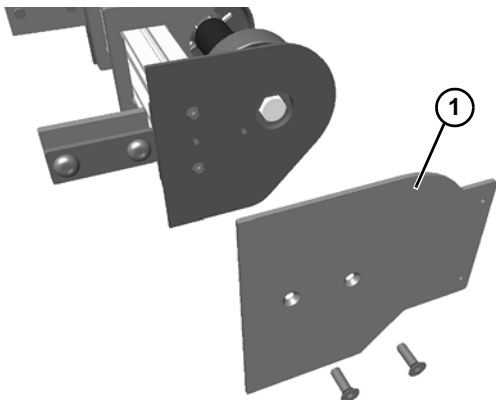

Figure 93
8. Remove cover plate (**Figure 93, item 1**) off of idler tail assembly.